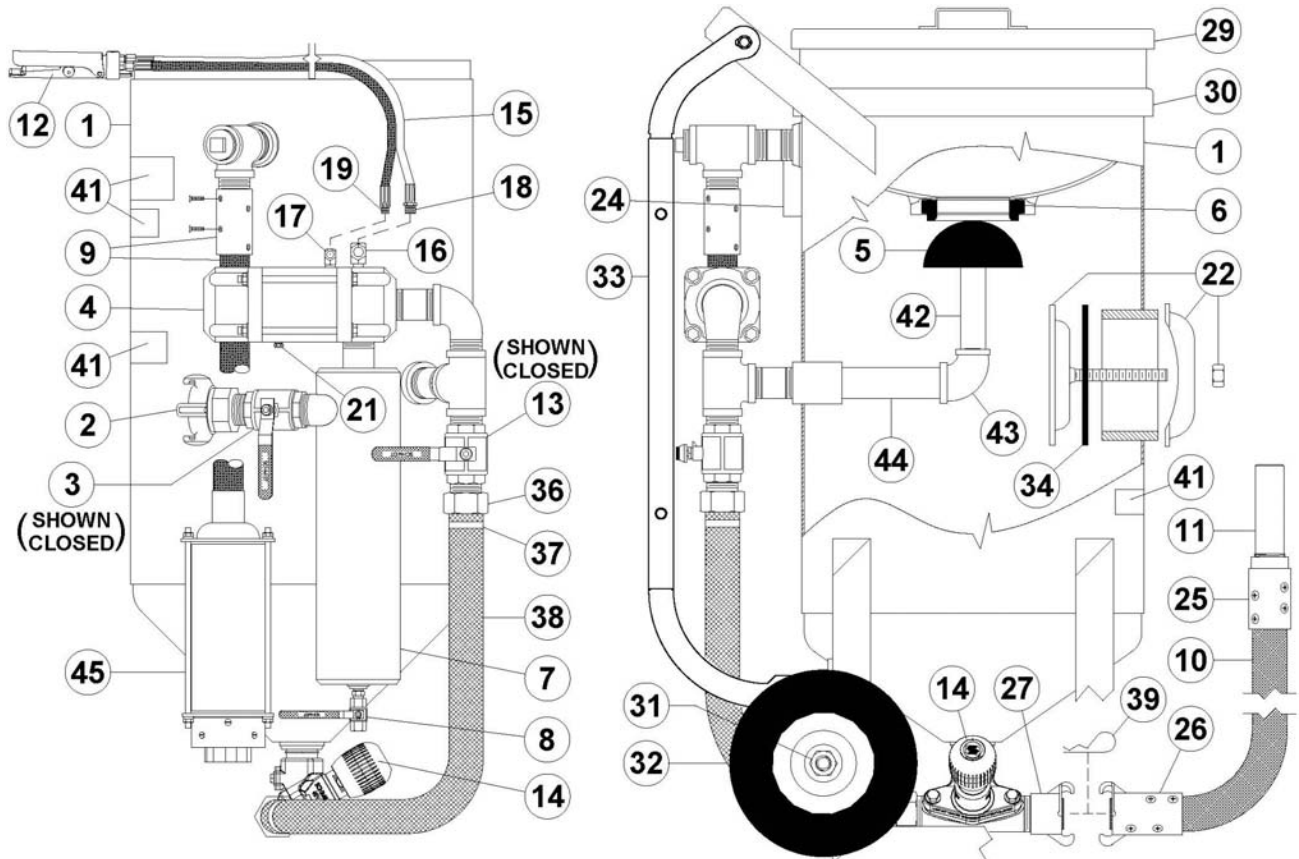

Figure 6.2 – MV3 Valve Abrasive Blaster with pneumatic blast controls
6.1 Abrasive Blaster Setup Procedure (see Figure 6.2)
- 6.2.3. Close the air inlet ball valve (#3) to disable the blaster and the deadman blast control. The ball valve is closed when the handle is fully turned to the position shown in Figure 6.2 (handle perpendicular to body). The handle tab will bottom against the ball valve body in the closed position.